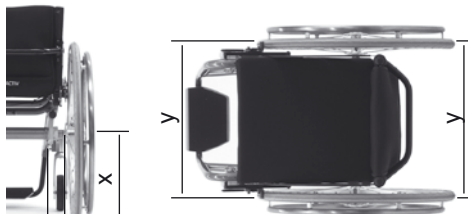

Fig. 9
Measure the distance (*Fig. 9 y*) at the front and back between the drive wheels at the shaft centre (*Fig. 9 x*). The distance between the front and the back of both drive wheels should be the same. If the distance differs by more than 5 mm, then the track must be corrected. Correction is also necessary, if the distance (*Fig. 9 z*) is not the same on both sides.
2. Ensure that the distance to the frame (Fig. 9 z) at the right and left is the same